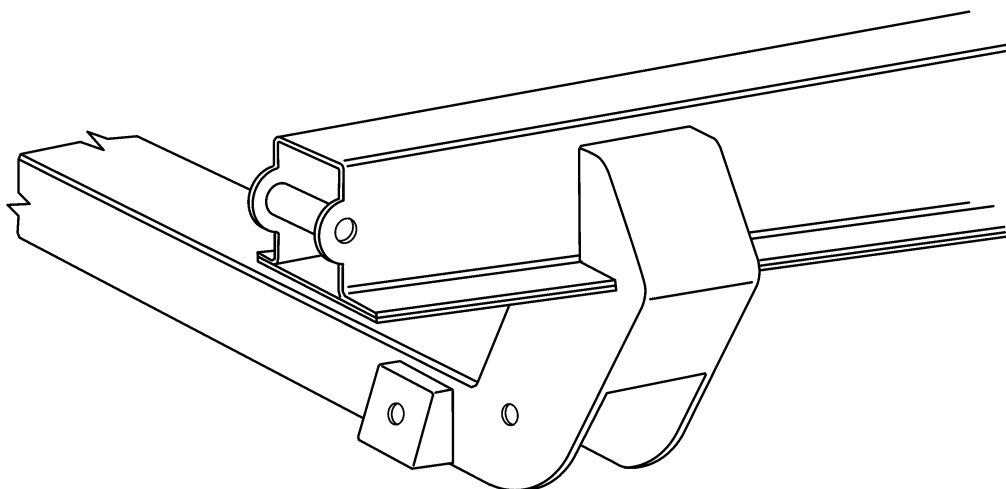

Figure 4
6. Next start fitting the crossmember. Slip the crossmember up onto the frame, centering it on the scribed spindle centerline. See figure 4. If it does not quite fit onto the frame, slightly grind the upright ends of the crossmember until you can get it into place. Make sure that the crossmember is fully seated on the underside of the frame. Tack weld in place, double check the location and weld in place. welding all around both ends, top, sides, and the underside of the bottom of the frame.